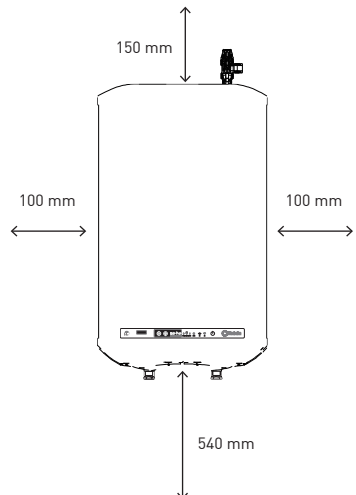
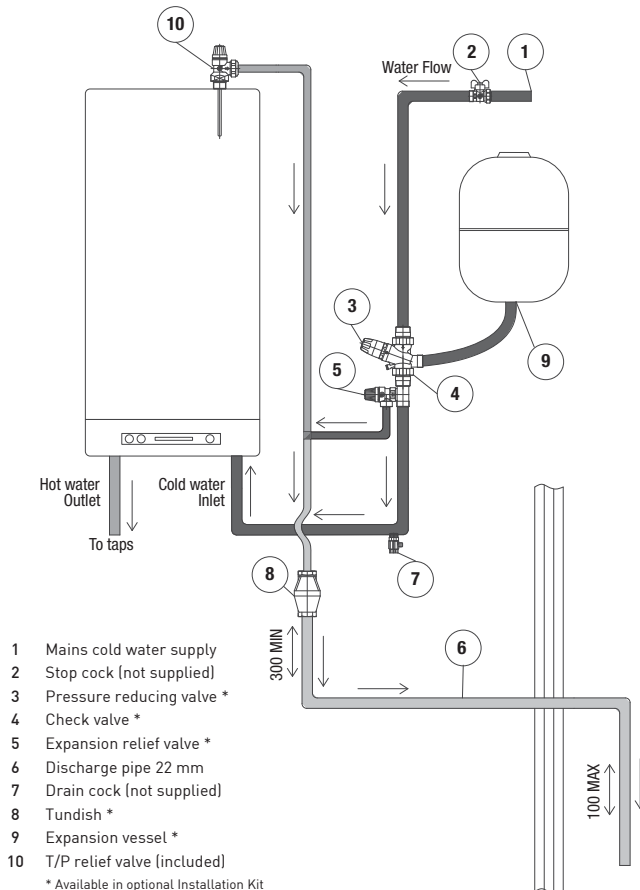

Fig 1 - Minimum margins for servicing and repairs.
Figure 2
**3.7. Pipework connections** – All Pipework connections to the cylinder **MUST** be made in accordance with Fig1.
**4.1. Connections.** Connections **MUST** be made to the cylinder in accordance with Fig 1, and Fig 2. A drain cock (not supplied) should be fitted in the position shown in Fig 1 to facilitate draining of the cylinder.
The outlet of the T/P valve should be routed in 15mm copper piping in a downward direction alongside the water heating unit to the tundish in a frost-free environment. The outlet of the expansion relief valve must be T'd into this pipe before the tundish so that any water exiting either valve can be seen draining through the tundish– see figure 2
**4.4. Pressure reducing valve** – The pressure reducing valve should be installed in the cold water supply to the water heating unit with the arrow pointing in the direction of water flow as shown in figure 2. This can be connected to a maximum supply pressure of 0.9 MPa.
**4.5 Expansion relief valve** – This must be installed between the pressure reducing valve and the water heating unit in accordance with Figure 2. No other valve should be fitted between this valve and the cylinder. The expansion relief valve contains a non return valve.
vessel **MUST** be fitted to the safety group. The expansion vessel **MUST** be positioned with the entry point at the bottom – see Figure 2.
**IMPORTANT:** Regular checks must be carried out to ensure that the expansion vessel is correctly pressurised to 0.15 or 0.3 MPa at all times. – see Figure 2.
**4.7. Tundish** – The tundish must not be positioned above or in close proximity of any electrical current carrying devices or wiring. The installation should conform with the requirements of item 4.9 below.
- 7.4. Drain the cylinder – When draining the cylinder, always switch off the water heater. Turn off the water supply at the stopcock (see Fig 2). Connect a hosepipe to the drain cock (see Fig 2) and route it to a convenient gully. Open the drain cock and all hot taps that are served by the cylinder. The cylinder may take several minutes to empty completely.